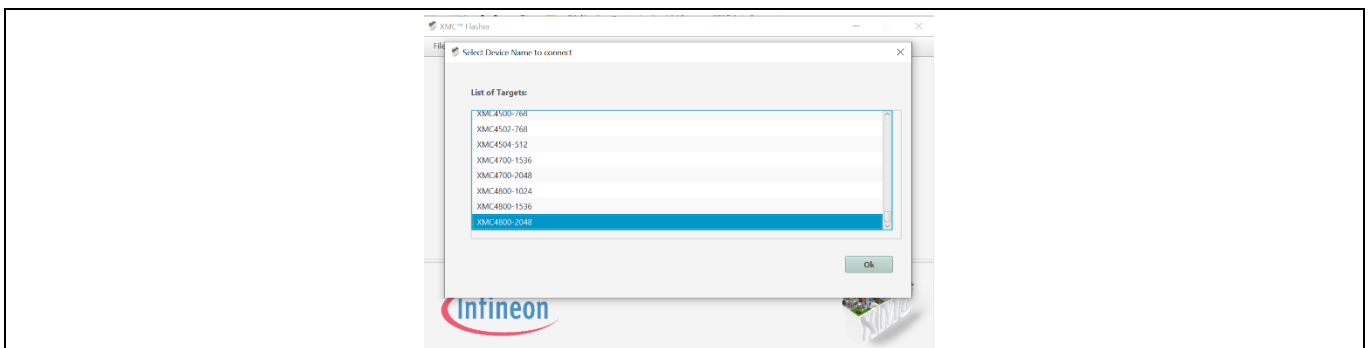
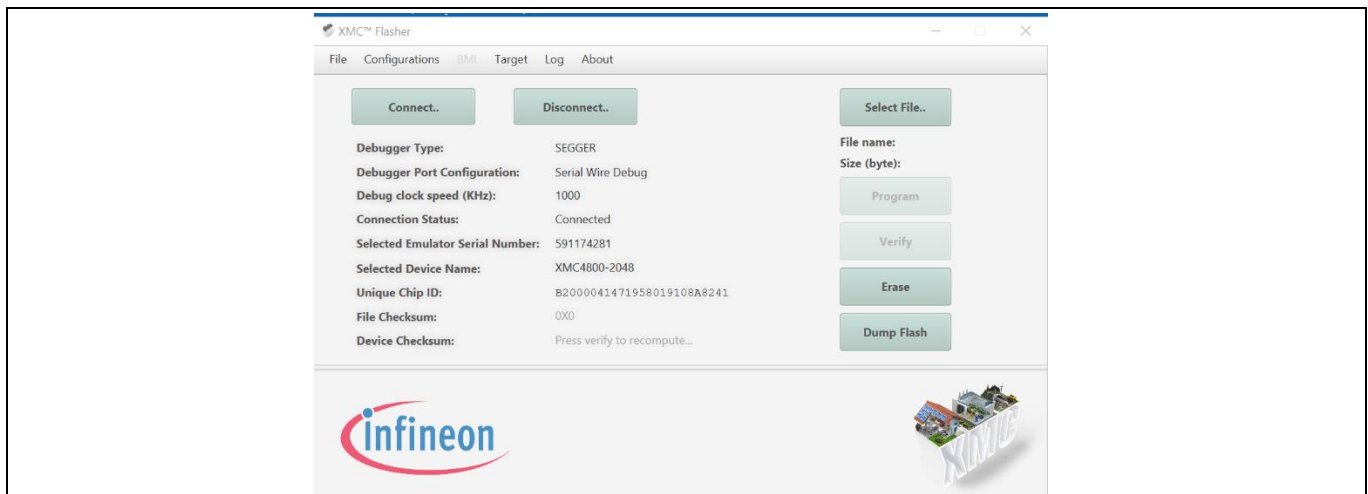

Figure 17 Select a device name to connect
Figure 18 XMCFlasher
1. Ensure that the board is powered and well connected via the USB cable, then choose **XMCFlasher** from the Start menu or open the XMCFlasher.jar (default location is C:\Infineon\Tools\XMCFlasher\...) and click **Connect**. The Select Device Name to Connect dialog box in Figure 17 opens.
2. Select the device name XMC4800-2048 as shown Figure 17. The connection status changes to connected and a Unique Chip ID is displayed (each onboard debugger has a unique ID) as shown in Figure 18.